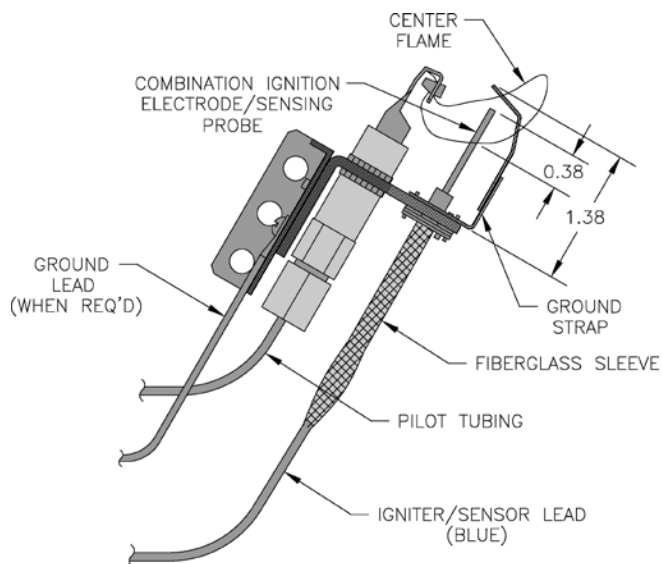

Figure 4: Pilot Burner
- a pilot burner to provide the ignition source for the main burners. See Figure 4.
4. Check pilot flame. See Figure 4. The pilot produces three (3) flames. The center flame should be steady, medium hard blue enveloping $\frac{3}{8}$ to $\frac{1}{2}$ inch of sensing probe. If flame is yellow and lazy, follow instructions TO TURN OFF GAS TO APPLIANCE (see Figure 2), and contact qualified service agency.